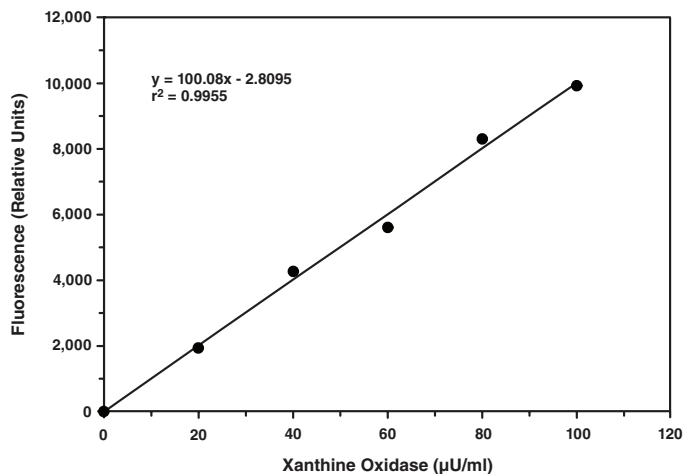

Figure 3. Xanthine Oxidase standard curve
3. Plot the corrected fluorescence values (from step 2 above) of each standard as a function of the final concentration of xanthine oxidase from Table 1. See Figure 3, on page 18, for a typical standard curve.